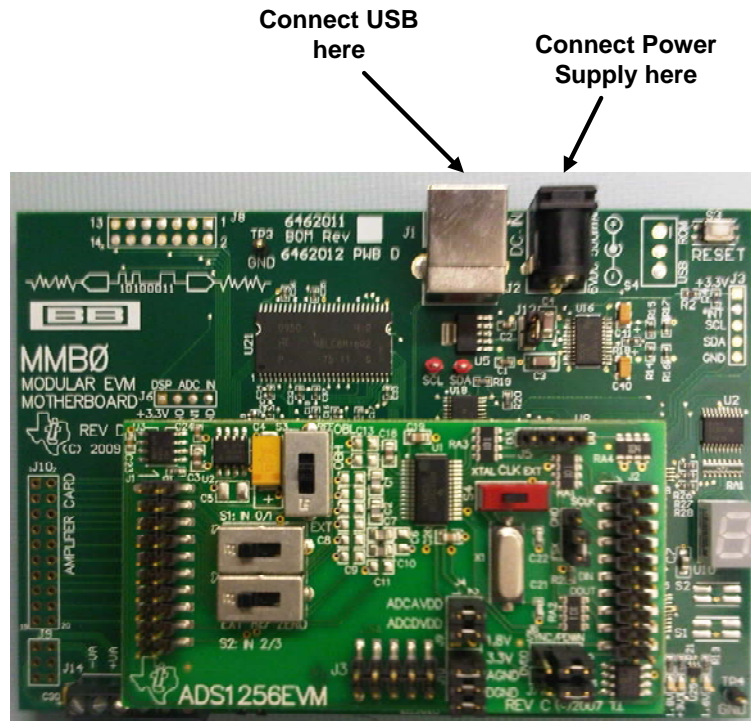

Figure 2
1. Verify that the test setup matches that of Figure 2 shown below. Connect the USB cable to the MMB0 as shown.